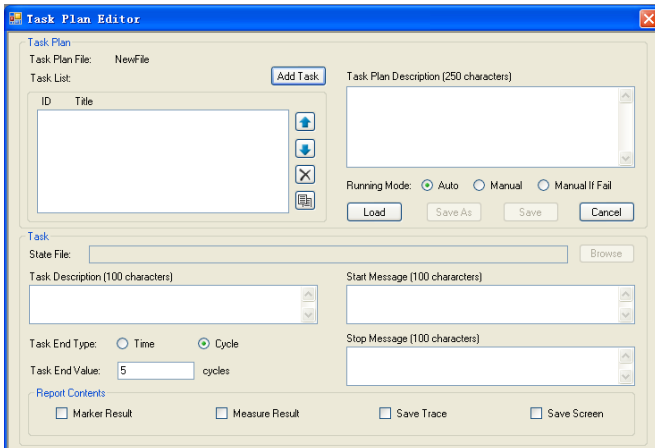

Figure 2 Task Plan Editor
- Click "Instruments" then "Task Plan Editor" to open the task plan editor as shown in Figure 2